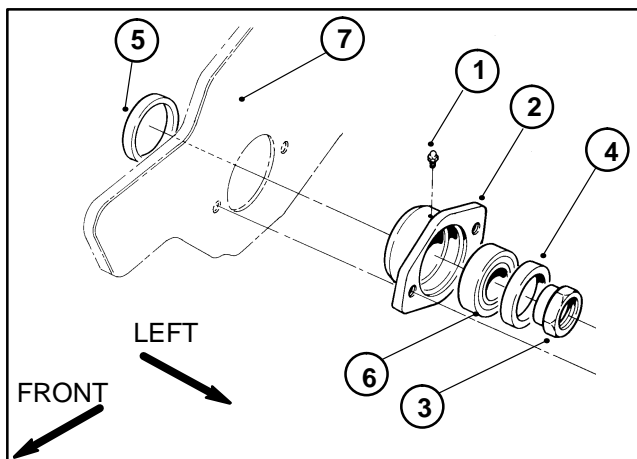

Figure 33
6. Secure cutting reel from turning with a block of hard wood, and remove lock nut from the cutting reel shaft (Fig. 33).
- B. Remove large seal, small seal, and bearing from the bearing housing (LH) (Fig. 33).
3. Reassemble bearing housing (LH) components (Fig. 33).
6. Attach bearing housing (LH) through the frame onto the reel shaft (Fig. 33).
7. Secure cutting reel from turning with a block of hard wood. Tighten lock nut to the cutting reel shaft (Fig. 33). Torque lock nut to 50 ft–lb (6.9 kg–m).